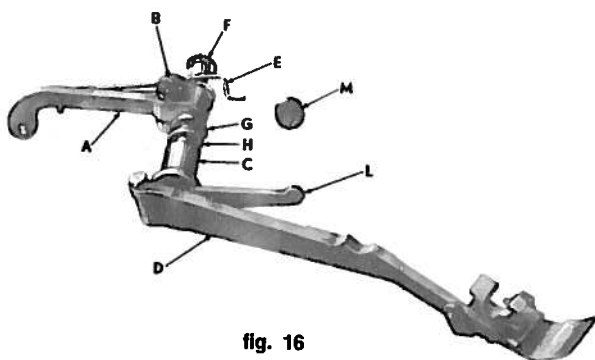

fig. 16
e) Positioning of presserfoot arm (fig. 16)
- Press down on lever B (fig. 20) and swing out presserfoot holder D (fig. 16).
- Loosen slightly screw B (fig. 16) to release spring pressure on lifter lever arm A (fig. 16)
- Loosen screw in stop M (fig. 16).
e) Stitch length adjustment (fig. 16)